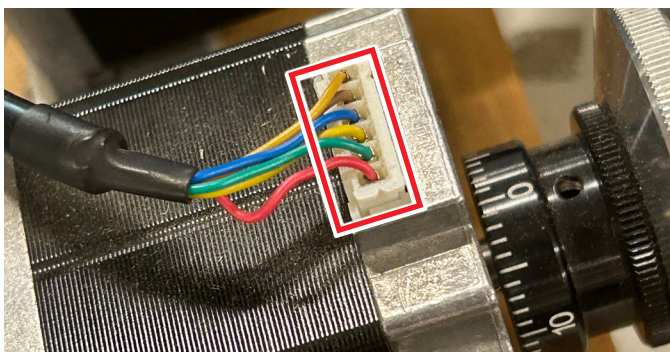

FIGURE 1—Close-up of the stepper motor wire connector.
3. The second cause of failure is a broken stepper motor. These wires are very small. With the power off, look at the wires going into the stepper motor connector wire. Look for any black burn marks. Look at each wire closely. (see Figure 1).